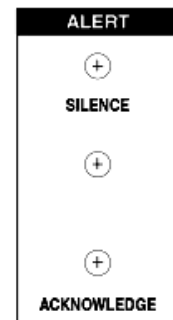

Figure 3-3
- **RF Interference:** Yellow Led - Indicates that an RF interference condition exists and that signals may be hindered. RF interference is a condition where the Carrier Detect (CD) in the transceiver is active for more than 20 seconds. This LED will turn off if CD turns off for 100 milliseconds.
3.1.3 Alert Panel: This section of the front panel contains an LED and two Push Button Switches. The LED illuminates to indicate the existence of unacknowledged message(s). The switches allow for Silencing and Acknowledgment as described below: See Figure 3-3. There is also an audio device associated with these functions, which is located behind the small hole to the right of the Alert Panel.